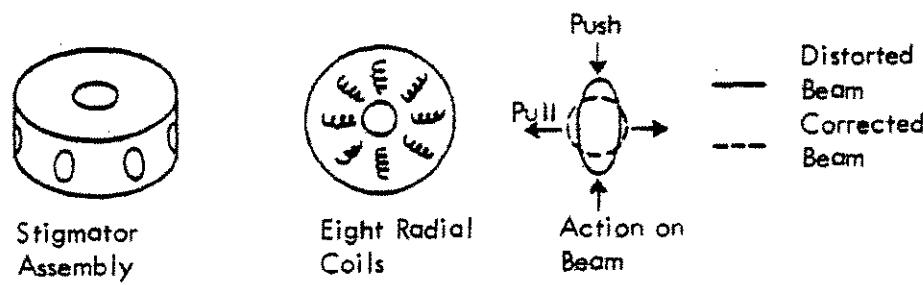

Figure 7.4
- Figure 7.4 Stigmators
Also in the column is a beam shaper called the stigmator. The beam, by the time it reaches the sample, may not be exactly circular causing a phenomenon known as astigmatism. Astigmatism is present when the image is in focus in one axis but is smeared in the direction perpendicular to this. The stigmator can create a magnetic field around the beam to restore it to its original circular cross section, so removing the astigmatism from the image (see fig 7.4).